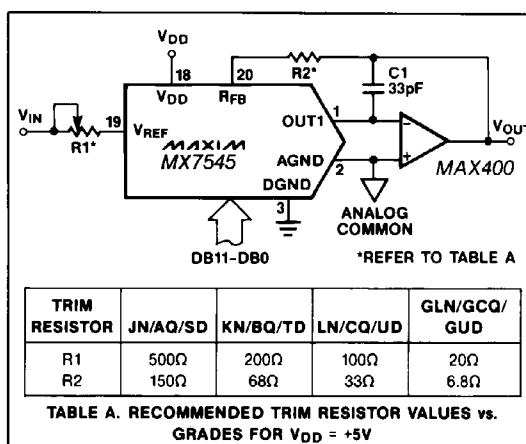
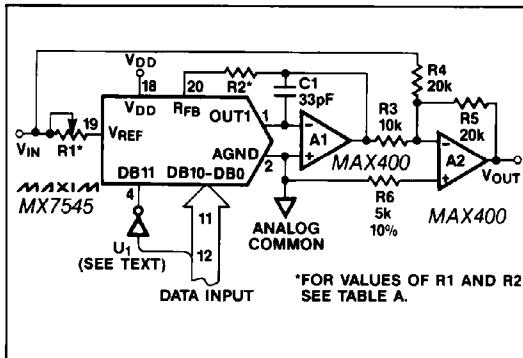
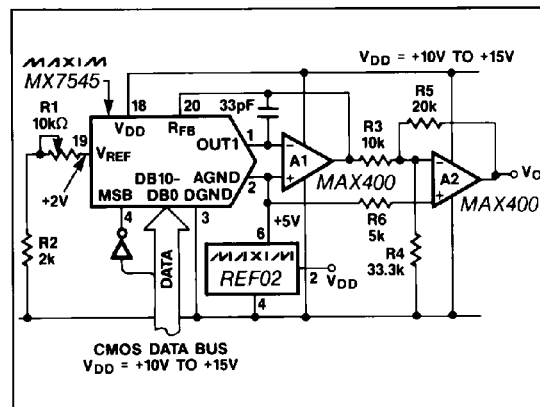

Figure 3. Unipolar Binary Operation
Figure 4. Bipolar Operation (2's Complement Code)
Figure 8. Single Supply "Bipolar" 2's Complement D/A Converter
**Note 1:** Using internal feedback resistor, RFB. DAC register loaded with 1111 1111 1111. Gain error is adjustable using the circuits of Figures 3, 4 and 8.
Either current output can be converted into a voltage externally by adding an output amplifier (Figure 3). The  $V_{REF}$  input accepts a wide range of signals including fixed and time varying voltage or current inputs. If a current source is used for the reference input, then a low temperature coefficient external resistor should be used for  $R_{FB}$  to minimize gain variation with temperature.
The most common configuration for the MX7545 is shown in Figure 3. This circuit is used for unipolar binary operation or two-quadrant multiplication. The
Table 1. Unipolar Binary Code Table for Circuit of Figure 3
In many applications the gain adjustment will not be necessary, especially when using the "G" suffix parts with guaranteed maximum  $\pm 1$  LSB gain errors. In those cases and also when the gain is trimmed at the reference source, resistors R1 and R2 in Figure 3 can be omitted. However, if the trims are desired and the DAC is operated over a wide temperature range, then low tempco ( $<300ppm/^{\circ}C$ ) resistors should be used for R1 and R2.
With the circuit configuration shown in Figure 4, the MX7545 operates in the bipolar, or 4-quadrant multiplying mode. A second amplifier and three matched resistors, R3, R4 and R5 are required. These resistors must be of the same material (preferably metal film or wire-wound) for good temperature characteristics, and they should match to 0.01% for 12-bit performance.
Table 2. 2's Complement Code Table for Circuit of Figure 4
To adjust the circuit with offset binary code, load the DAC with a code of 1000 0000 0000 and trim R1 for a 0V output. With R1 and R2 omitted, an alternative zero trim is to adjust the ratio of R3 and R4 for 0V out. Full scale can be trimmed by loading the DAC with all "zeros" or all "ones" and adjusting the amplitude of  $V_{REF}$  or varying R5 until the desired positive or negative output is obtained. In many applications the gain adjustment will not be necessary, especially when using the "G" suffix parts with guaranteed maximum  $\pm 1$  LSB gain errors. In those cases and also when the gain is trimmed at the reference source, resistors R1 and R2 in Figure 4 can be omitted. However, if the trims are desired and the DAC is operated over a wide temperature range, then low tempco ( $< 300\text{ppm}/^\circ\text{C}$ ) resistors should be used for R1 and R2.
The unipolar and bipolar circuits in Figures 3 and 4 can all be converted to voltage output mode. For example, Figure 8 shows the 2's complement bipolar circuit of Figure 4 modified to work with an output range of +2V to +8V around an offset ground potential of +5V from a single supply,  $V_{DD}$ , of +10V to 15V. The REF02 reference is used to bias the AGND at +5V. The R1 and R2 resistors form a voltage divider together
Figure 7. Differential Nonlinearity vs. Reference Voltage for Figure 4 Circuit.  $V_{DD} = 15$  Volts. Shaded Area Shows Range of Values of Differential Nonlinearity that Typically Occur for L, C, and U Grades.
Figure 6. Differential Nonlinearity vs.  $V_{DD}$  for Figure 4 Circuit. Reference Voltage = 2.5 Volts. Shaded Area Shows Range of Values of Differential Nonlinearity that Typically Occur for L, C and U Grades.